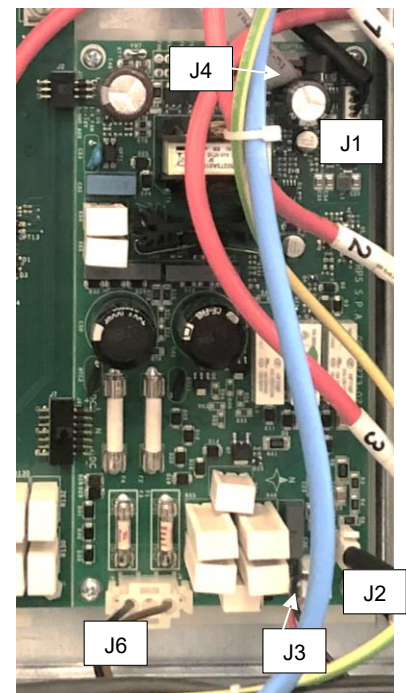

Fig. 88
- RN1 from L1 inductor (see fig.88)
- RN2 from L2 inductor (see fig.88)
- RN3 from L3 inductor (see fig.88)
(Fig.88):